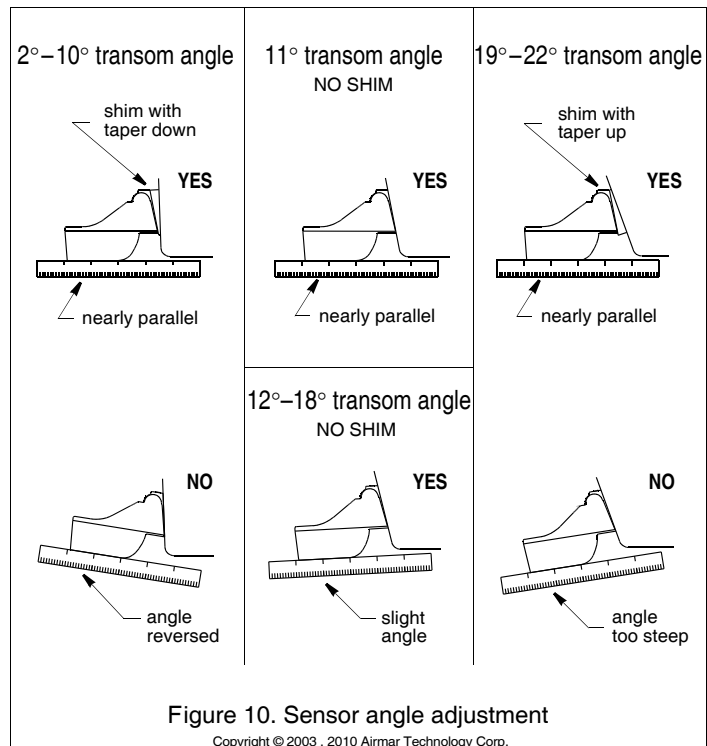

Figure 10. Sensor angle adjustment
1. Using a straight edge, sight the underside of the sensor relative to the underside of the hull (see Figure 10). The stern of the sensor should be 1–3mm (1/16–1/8") below the bow of the sensor or parallel to the bottom of the hull.
- a. Increase the sensor's angle in the water. Review "Plastic Shims" and see Figure 10.